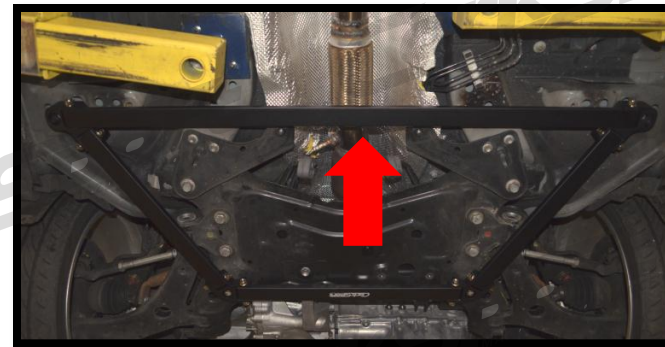

Figure 2f
- e) **Install brace bar #4** using the supplied 60mm long 8mm hardware (shown with an arrow in Figure 2f).
- e) Install brace bar #4 (shown with an arrow in **Figure 2f**). Remember to just start the supplied 60mm long 8mm hardware.